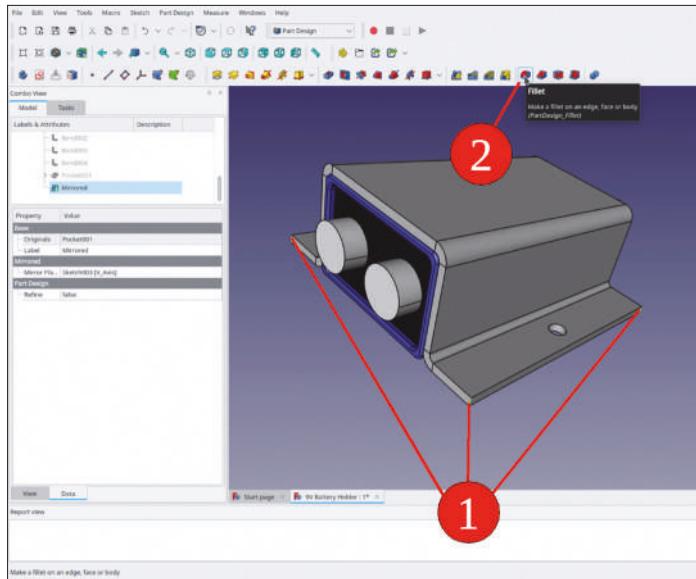

Figure 5-22
26. To avoid sharp corners on the part, mark the four outer edges of the sheet metal piece and select 'Filletlet' (Figure 5-22).